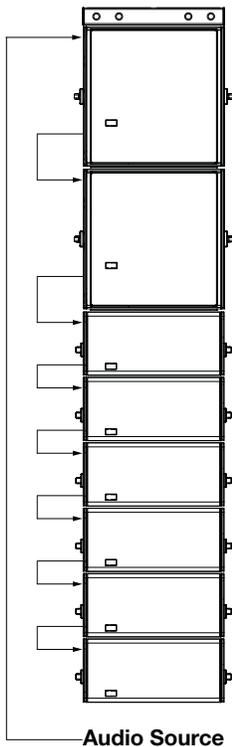

Figure 3: Flown Mixed Array
- Flown mixed arrays of LEOPARDS and 900-LFCs (Figure 3)